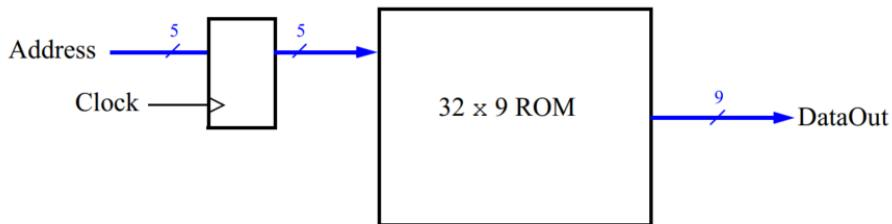

Figure 4: The 32 x 9 ROM with address register.
- A diagram of the memory module that we need to create is depicted in Figure 4. The System Verilog code for this module is prepared in exercise 3, pre lab 4.